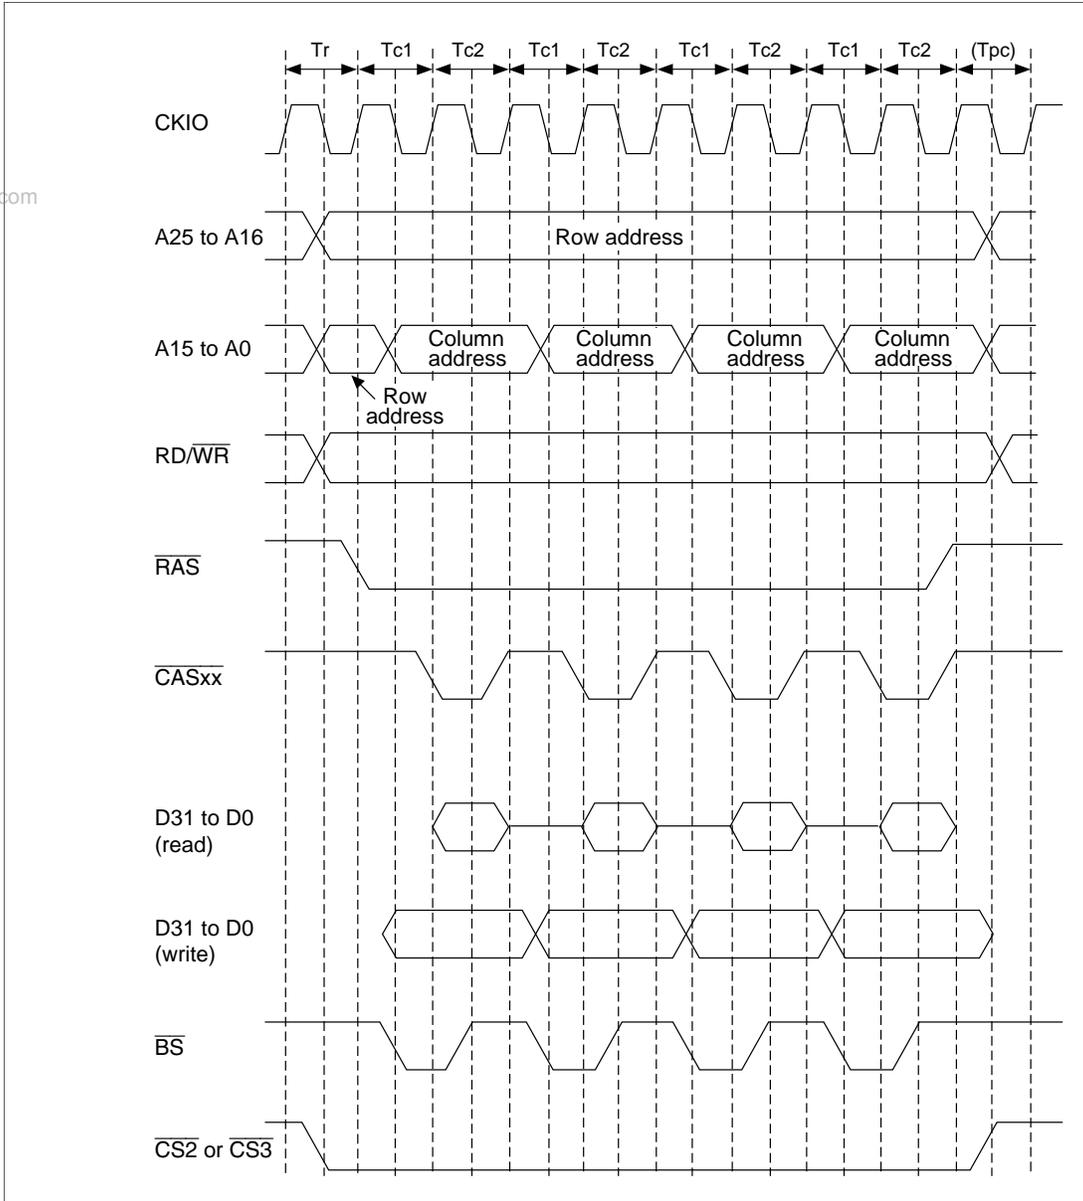

Figure 10.16 DRAM Burst Access Timing
**Burst Access:** In addition to the normal DRAM access mode in which a row address is output in each data access, a high-speed page mode is also provided in cases where consecutive accesses are made to the same row. This mode allows fast access to data by outputting the row address only once, then changing only the column address for each subsequent access. Normal access or burst access using high-speed page mode can be selected by means of the burst enable (BE) bit in MCR and DCR. The timing for burst access using high-speed page mode is shown in figure 10.16.